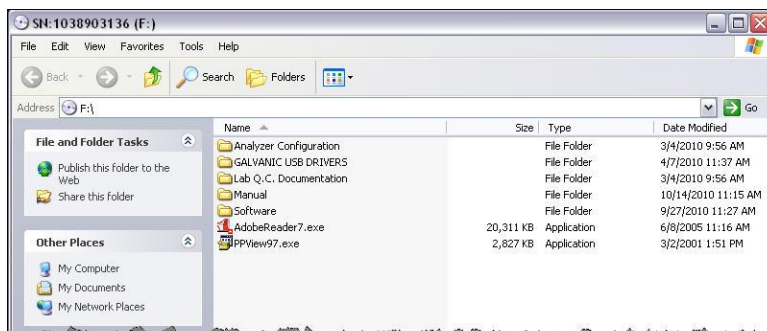

Figure 3-3: CD Contents
- a) Insert the compact disk that was included with the system into the CD ROM drive of the personal computer. A window will be presented showing the contents of the CD (Figure 3-3).